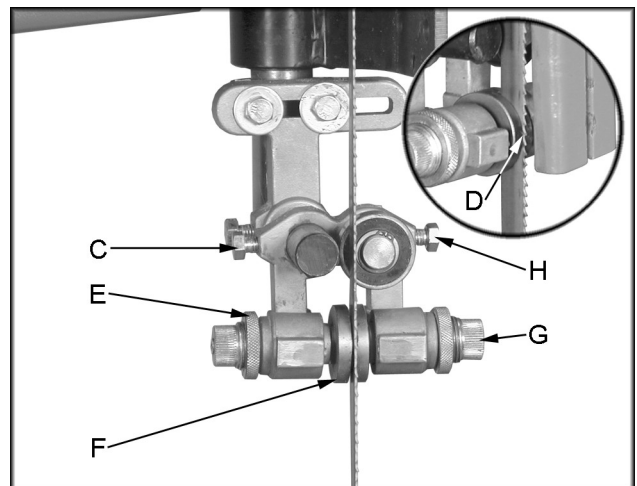

Figure 6
The blade guard has been removed in Figure 6 for photo purposes only.
3. Loosen bolt (C, Figure 6) and position the blade guide assembly so that the guides rest just behind the gullet of the blade teeth (D, Figure 6). Tighten the bolt.
4. Loosen the knurled jam nuts (E, Figure 6) that lock the guides (F, Figure 6) in place.
5. Turn the knurled knob (G, Figure 6) so that the guides rest lightly against the blade, approximately 0.003" away from the side of the blade, about the thickness of a piece of paper. **Do not** force the guides against the side of the blade. Tighten knurled jam nuts while holding the knurled knobs.
6. Adjust the blade support bearing so that it is 0.003" away from the back of the blade, about the thickness of a piece of paper. To make this adjustment loosen bolt (H, Figure 6) and slide the bearing and bearing post into position. Tighten the bolt.